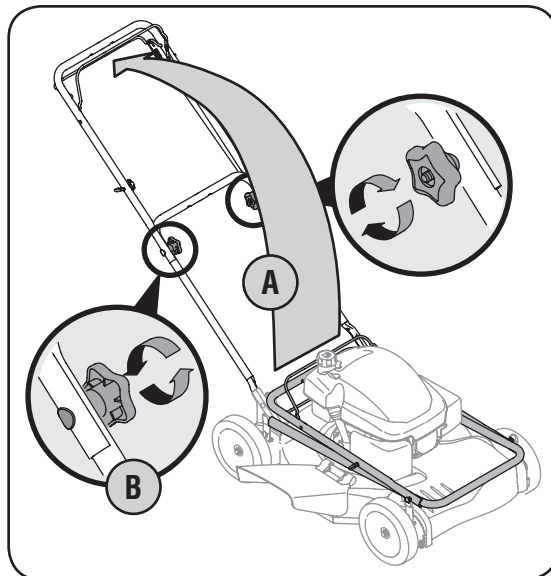

Figure 3-2
- a. Pull up and back on the upper handle to raise the handle from position A into the operating position B. See Figure 3-2.